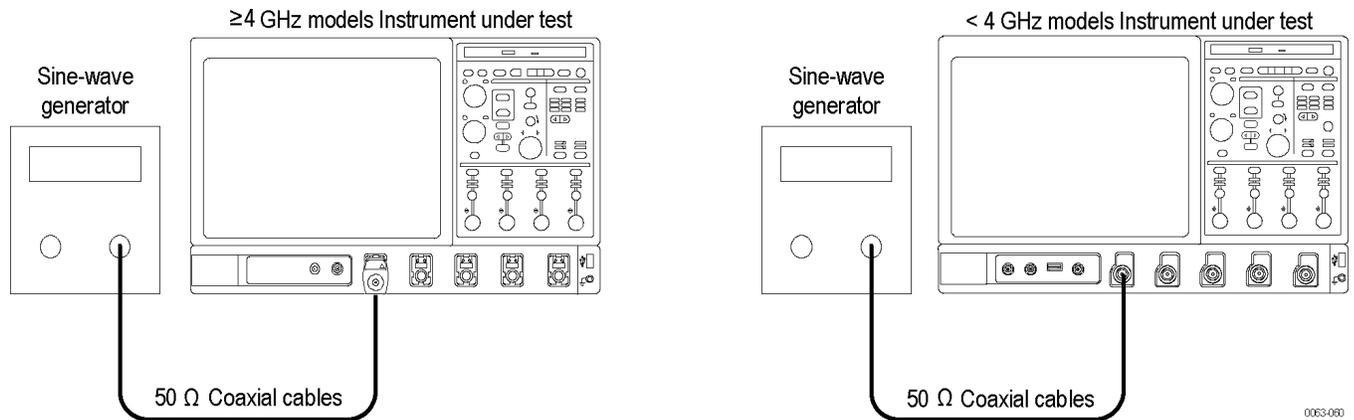

Figure 27: Timebase and delay time second test hookup
- b. Hook up the test-signal source: Connect the output of the sine wave generator to **Ch 1** input. (See Figure 27 on page 299.)